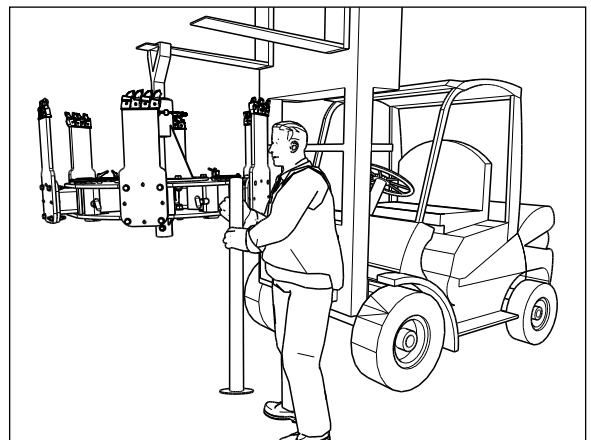

Figure 8. Attaching Supporting Legs to Six Shooter
5. The Six Shooter must remain suspended to attach the Supporting Legs [A-MM0013]. See Figure 8.